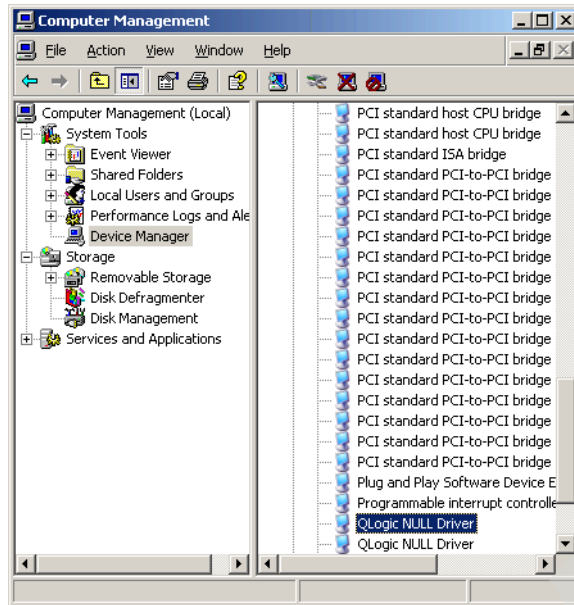

Figure 21-8 Device Manager with QLogic NULL Driver
To prevent unknown devices from being left in Device Manager, the Storage only driver installs a *Null* driver for the Ethernet Controllers. These controllers will then appear as System devices after the driver package is installed, as shown in Figure 21-8 on page 489.
8. The NULL driver for the Ethernet controller is installed in the same way: Repeat step 2 on page 487 to step 5 for both Ethernet Controllers in Device Manager. You will then see the two Ethernet Controllers listed under System Devices (QLogic NULL Driver), as shown in Figure 21-8 on page 489.